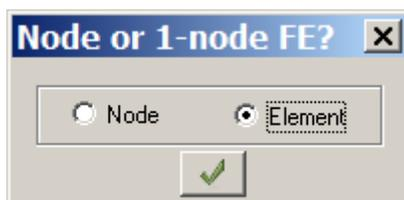

Figure 22.19 Node or 1-node FE? dialog box
- ⇒ In the **Node or 1-node FE?** dialog box (see Fig.22.19), select the **Element** option and click **OK** .